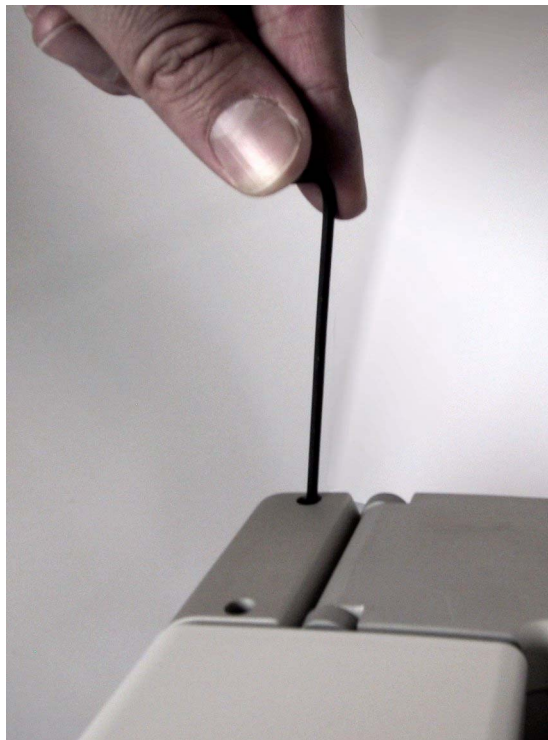

Figure 8 Remove Chamber Screws
3. Turn the unit around. Remove the two screws on the top of the chamber using the 2.5-mm hex-key as shown in Figure 8 on page 27.
10. Secure the chamber back into place with the two screws. Refer to Figure 8 on page 27.